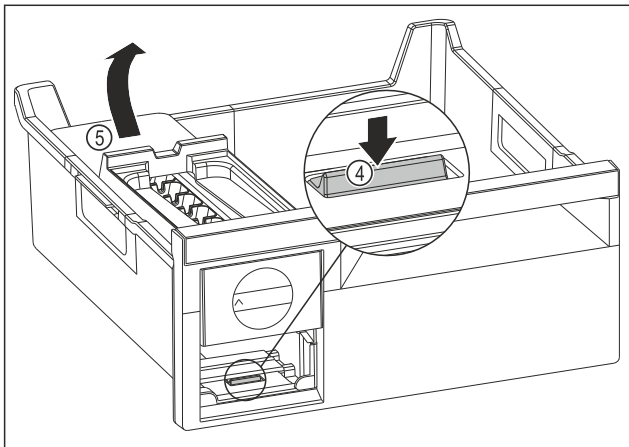

Fig. 145
- ▶ Removing the EasyTwist-Ice body: Use your finger to push the tab Fig. 145 (4) down and use your other hand to lift the EasyTwist-Ice body Fig. 145 (5) from behind at the same time.